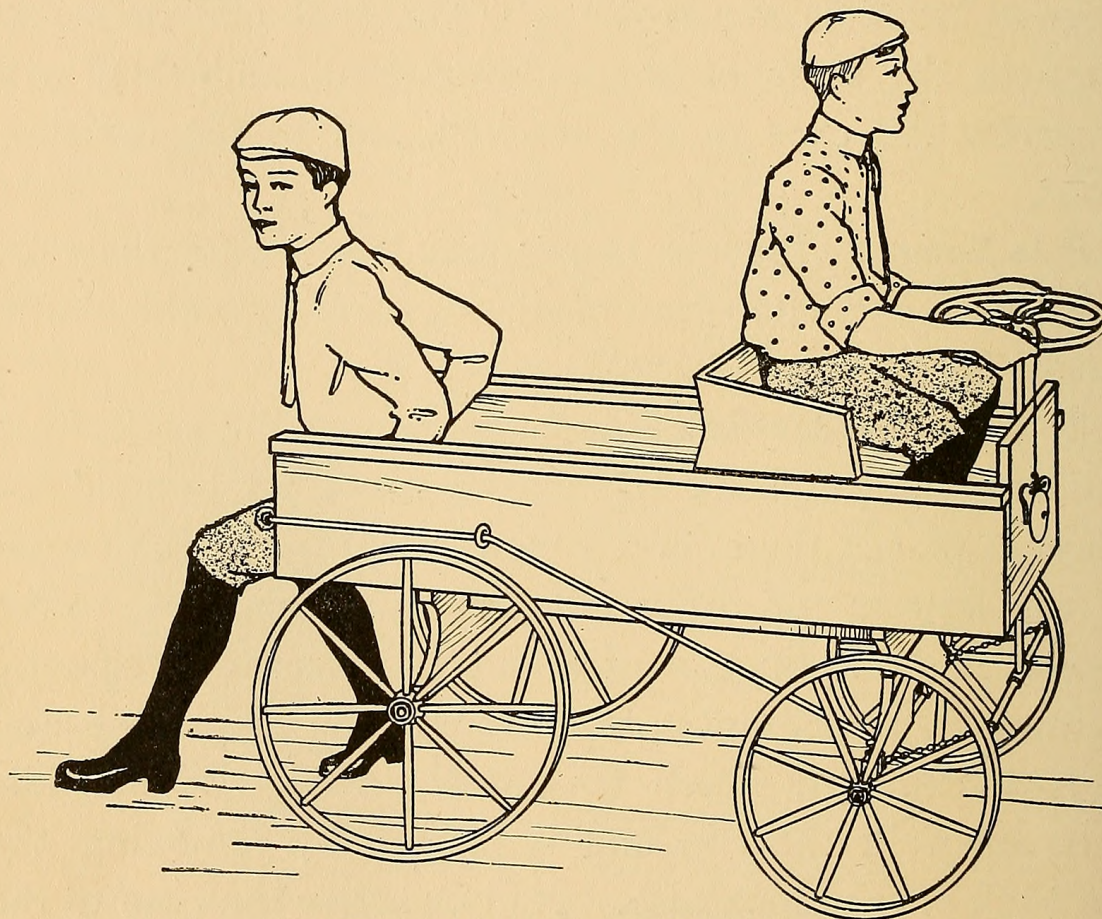

FIG. 472. — An Auto Wagon.
**An Auto Wagon.** The wagon shown in Fig. 472 has a body built similar to that of the pushmobile, except that